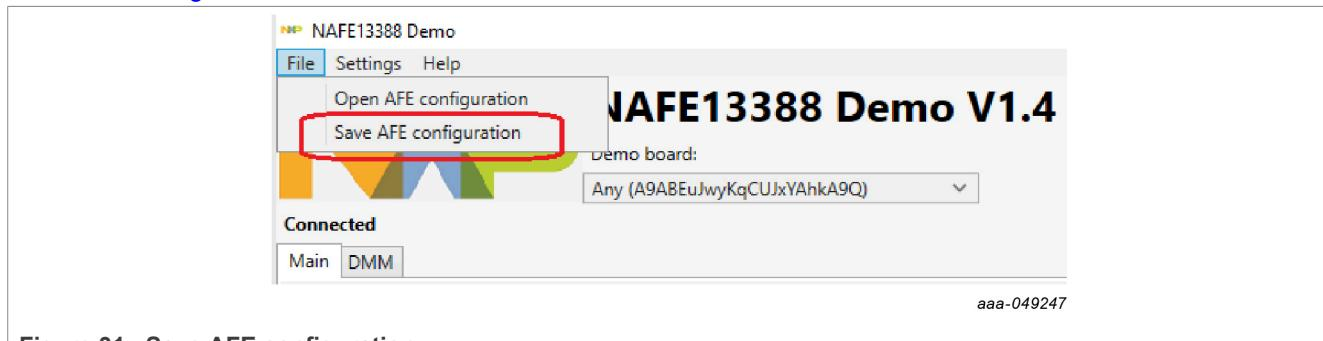

Figure 31. Save AFE configuration
1. Launch the NAFExx388 GUI, select all configuration settings (AFE channel #0-16 configuration settings, SCR/SCCR/MCR/MCCR settings), and proceed to the particular measurement or calibration. If the test result is as expected, the user can select Save AFE configuration in the File tab in the NAFExx388 GUI as shown in Figure 31.